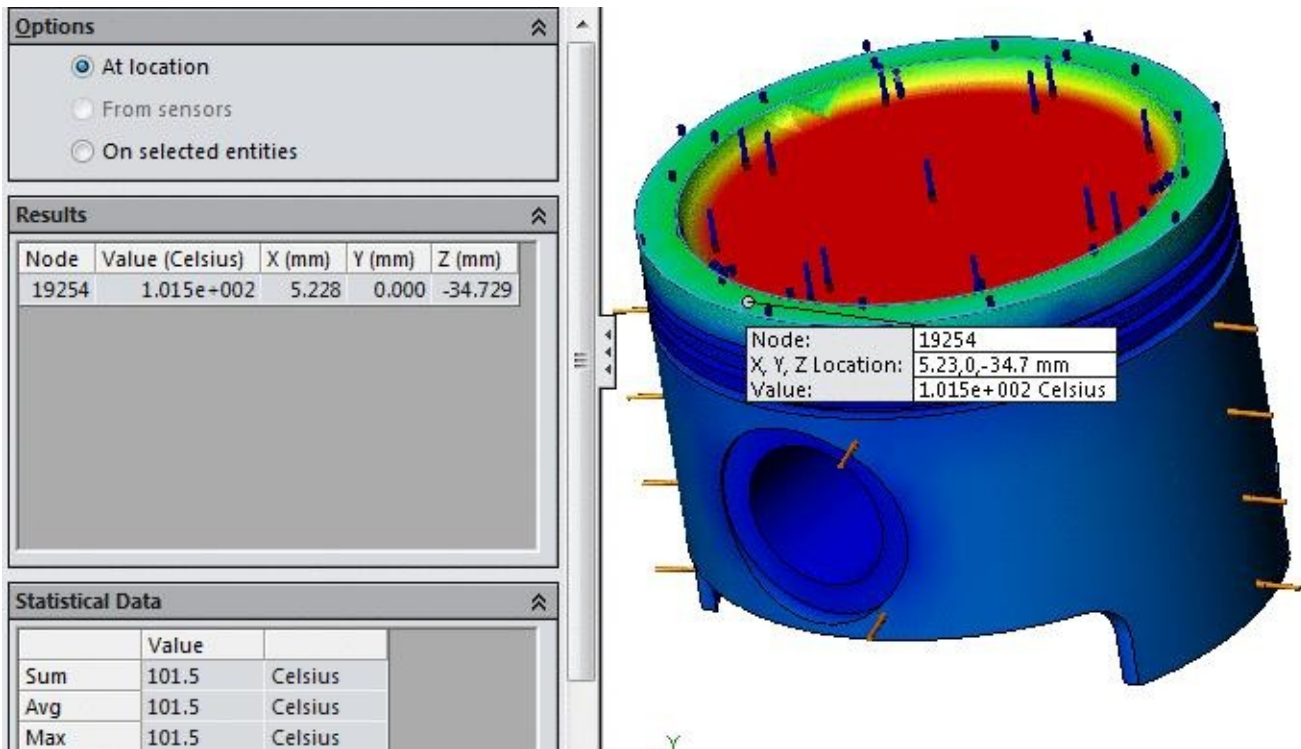

Figure-28. Temperature output
- Click on the model at the desired position. The temperature and other parameters of the selected position will be displayed in a box and **Results** rollout of **PropertyManager**; refer to Figure-28.